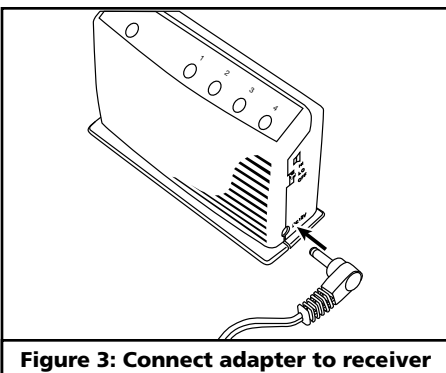

Figure 3: Connect adapter to receiver
10. Now plug in the AC adapter to the receiver (Fig. 3) and plug the transformer into a 120 VAC outlet and uncoil antenna wire.